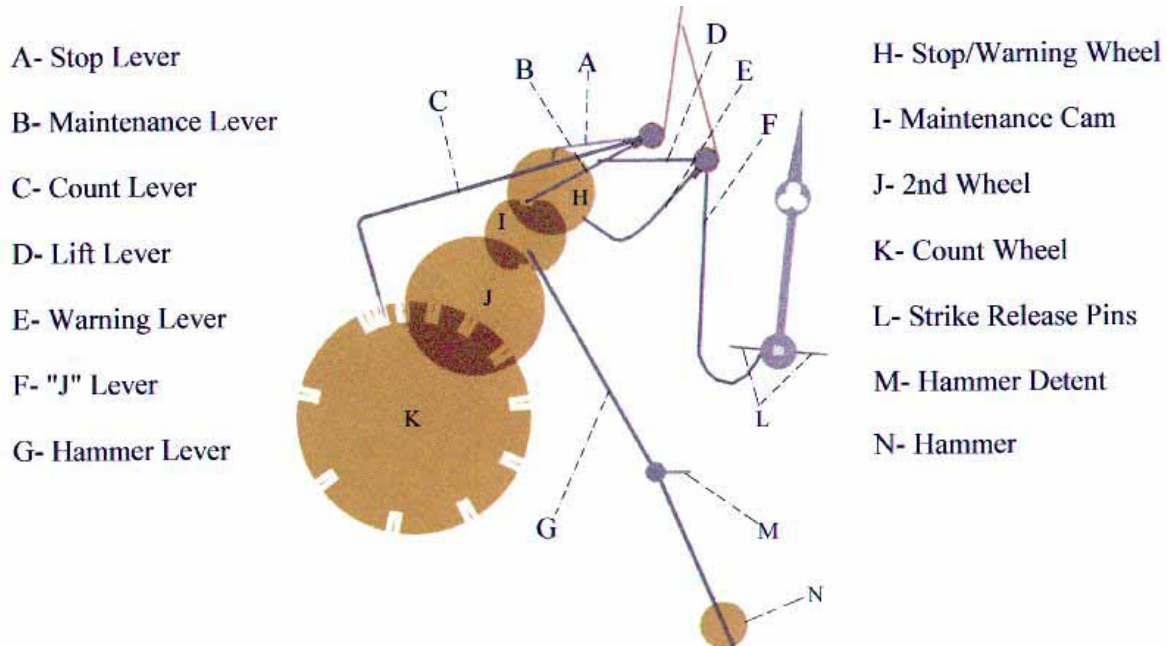

Figure 1
The following is a presentation of two generic lever arrangements which, hopefully, will enable you to understand specific and unique lever configurations. The first configuration, most commonly found in eight-day movements such as the Seth Thomas model 89's and others, has a stop/warning pin on the 4th wheel (see fig. 1). The hammer pins in this configuration are on the maintenance cam ^(I) or 3rd wheel. The second configuration discussed later in "Part 2", found in thirty-hour and some 8-day clocks, uses the maintenance cam ^(I) as the stop/lock and has the warning pin on the butterfly. The hammer pins are commonly found on the 2nd wheel ^(J).
THE LEVERS (fig. 1 - 3)